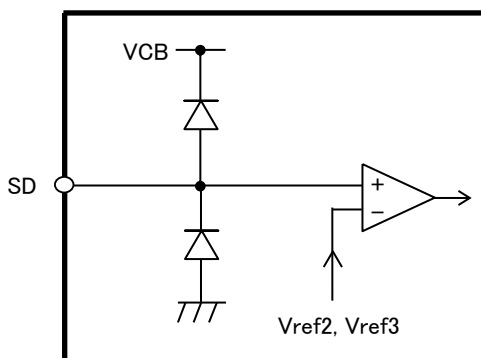

FIGURE 2.2.5 Equivalent Circuit Around SD Pin
- Note 6: The equivalent circuit is shown in FIGURE 2.2.5.